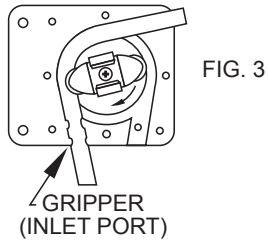

FIG. 3
7. Push the new tubing into the inlet port, anchoring the tubing in grippers (see Fig. 3). If using a 9" piece of tube, 1½" should extend outside of the inlet port.